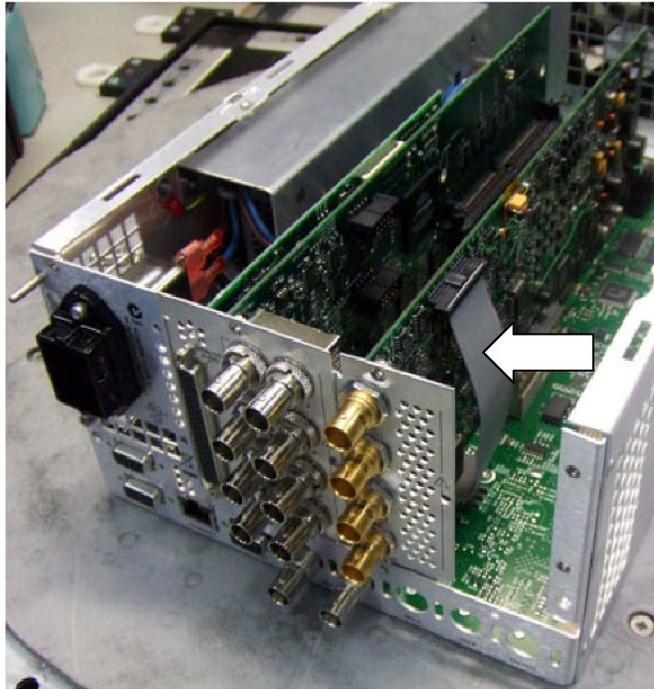

Figure 8: Installing the Option EYE or PHY cable
- Option EYE or PHY: Dress the cable towards the side of the instrument away from the power supply. (See Figure 8.)